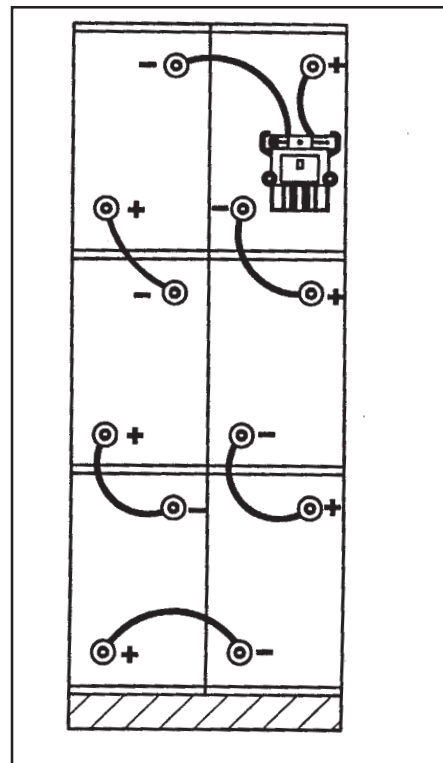

Figure 7
5. Put the batteries into position and connect the battery cables as shown in figure 7.